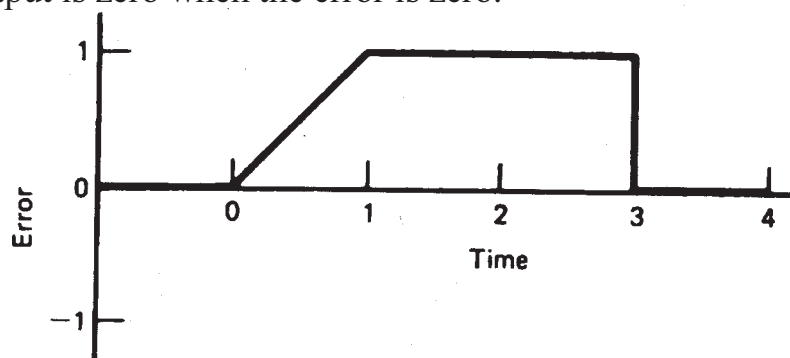

Figure 4
- Q9) a) Figure 4 shows an error time graph. Sketch the PID controller output w.r.t time. Assume  $K_p = 10$ ,  $K_I = 2$ ,  $K_D = 0.5$  and  $P_o = 0$  i.e the controller output is zero when the error is zero. [10]